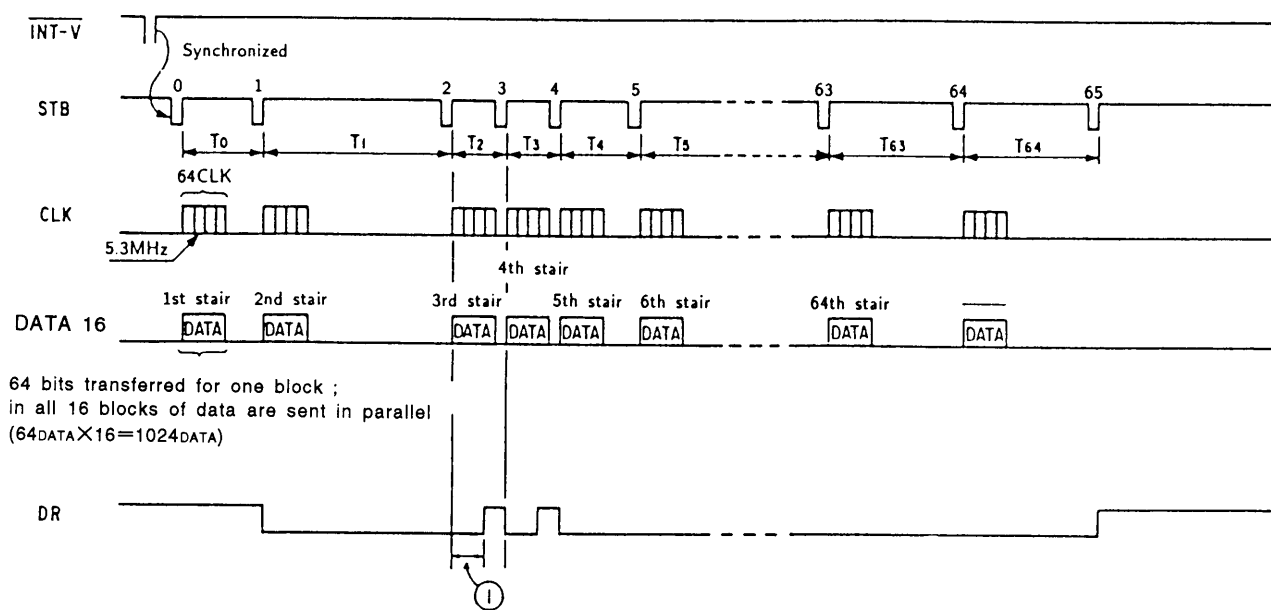

Fig.5-10. Stair Generation
- (i) The data recorded in video memory IC104 during print is input to gradation data generation circuit IC103 by one print line using a picture variable power operation circuit in IC103. The stair data generation circuit outputs the 6 bits of data recorded in IC103 as one of 64 levels. If the 6-bit data is "3", then DATA "H" is sent to the head during the 1st, 2nd, and 3rd stairs of DATA 1 to 6 in Fig.5-10, but from the 4th stairs and later, the DATA "L" is sent.